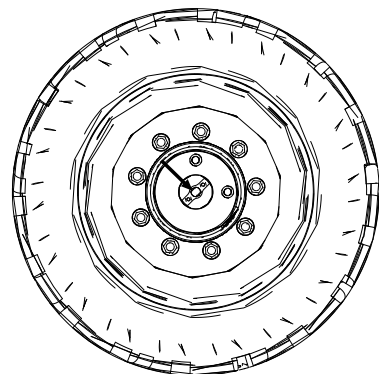

Figure 5-4
3. As indicated by the arrow Fig 5-4 , page 5-9, insert 0.04mm feeler gauge in between the bolt and washer.
6. As indicated by the arrow Fig 5-4 , page 5-9, insert 0.04mm feeler gauge in between the bolt and washer.